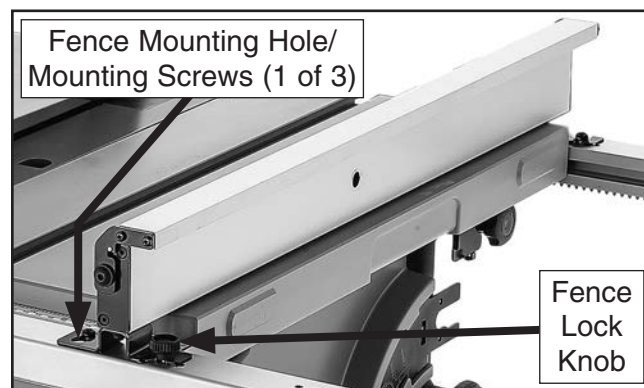

Figure 11. Fence installed.
1. Place fence on rails with fence mounting holes positioned over (3) pre-installed mounting screws, then tighten fence lock knob to secure (see **Figure 11**).